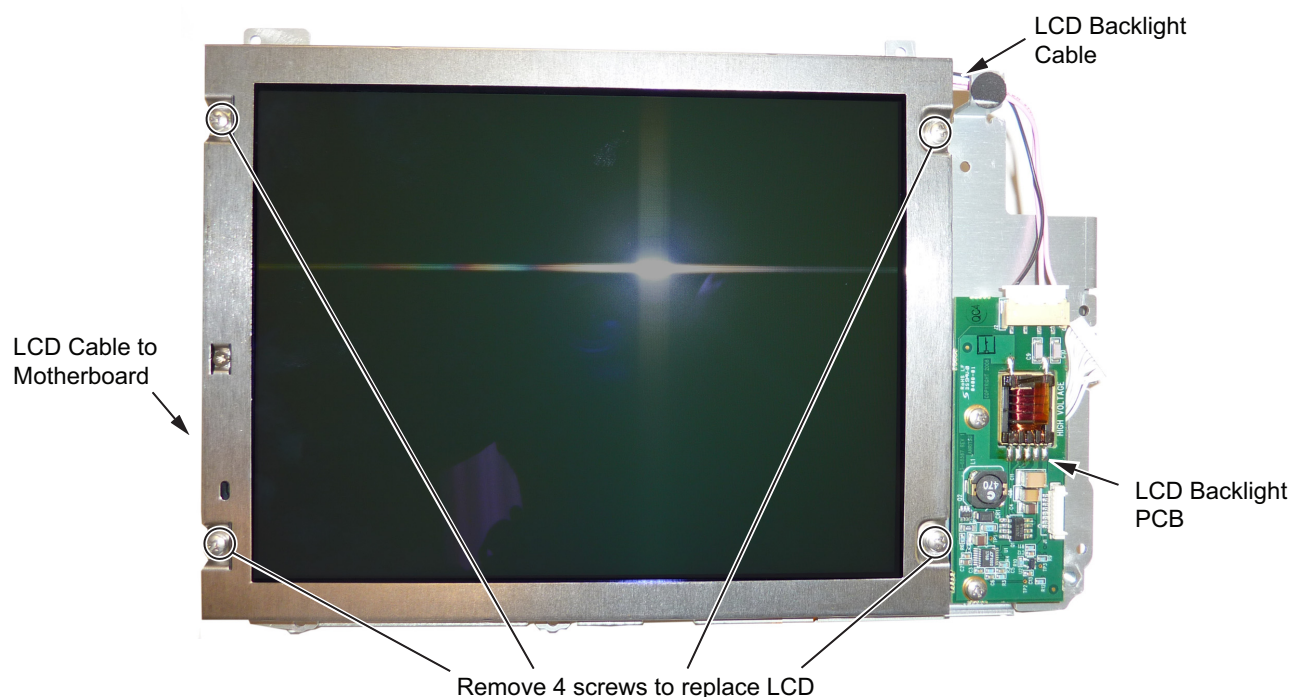

Figure 7-13. Replacing the LCD
5. Use a Phillips screwdriver to remove the four screws securing the LCD to the housing (Figure 7-13).